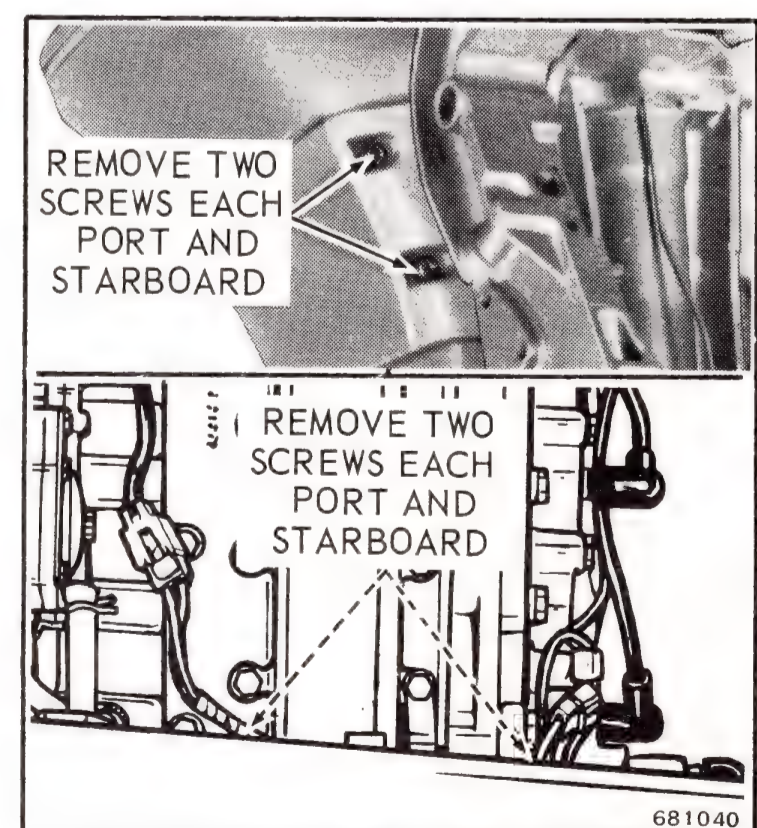

Figure 5-11. Front and Rear Exhaust Cover Removal
f. Remove front and rear exhaust cover screws. See Figure 5-11.